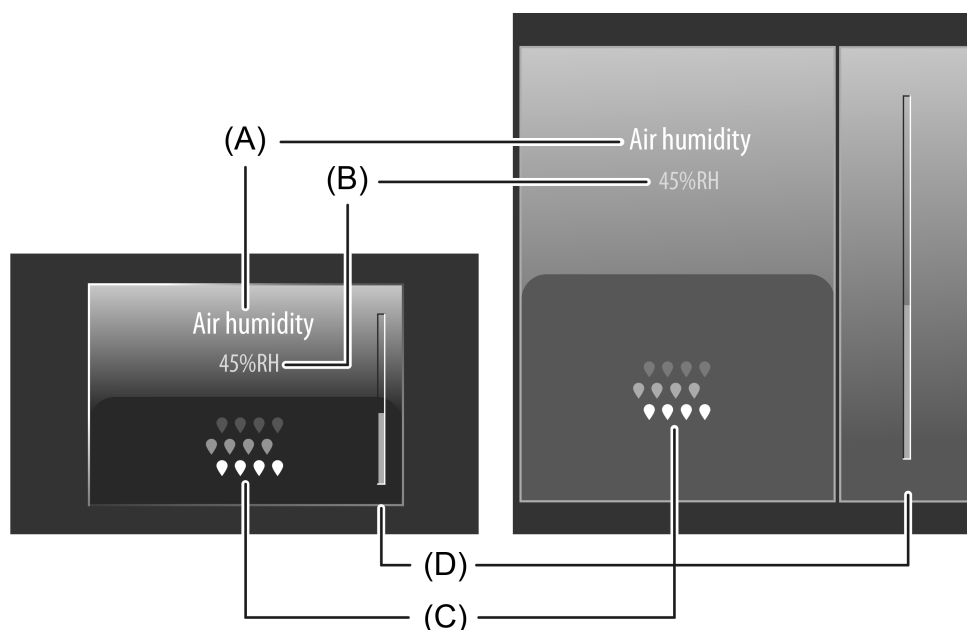

Figure 42: Example of an operating and display element of the channel function "2-byte value transmitter"
The display area contains different display elements (figure 42) that are influenced by ETS parameters. A name can be assigned to each KNX channel in the ETS (A). This text name is centred in the display element for display whereby controllable KNX functions are identified for the user (e.g. "Air humidity"). In addition, a status value (B) is displayed below the name, which displays values in plain text (e.g. "45%rF") depending on the object value of the value feedback of an actuator. The value displayed can be supplemented by a unit. The text for the value unit ("%rF" in the example) is configured in the ETS. After a device reset, the display shows "---" (supplemented by the unit) until a feedback object value of the status text is received. The display of the floating-point value received by the value feedback object can be formatted by ETS parameters. Hence, it is possible to set the number of places after the decimal point and optionally configure gain factors and value offsets (see "Objects" below).